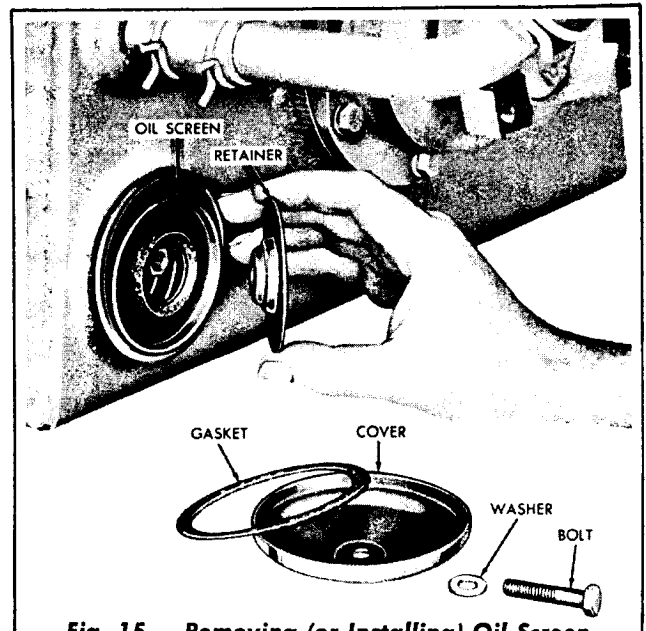

Fig. 15 — Removing (or Installing) Oil Screen Components
8. High-Reverse Range Torque Path (Fig. 15)
- b. Remove the oil screen from the transfer gear housing (Fig. 15). Clean the oil screen with a solvent, using a soft-bristle brush, and reinstall.